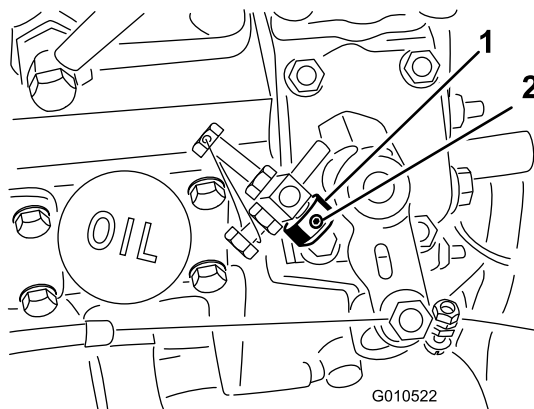

Figure 7
2. Slide the throttle stop onto the high idle stop screw (Figure 7). The chamfered end of the throttle stop is to be positioned outward.
1. Loosen the set screw on the throttle stop (Figure 7).